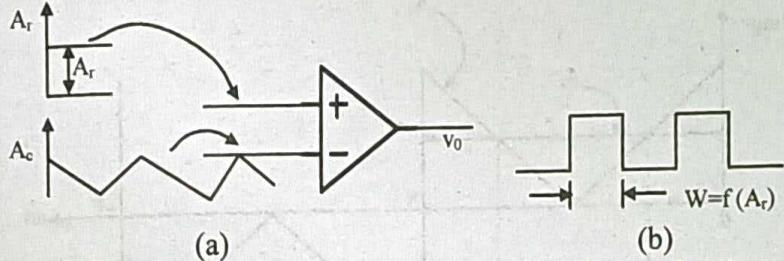

Fig: 1 (a) Generating gating signal (b) dependence of gating width
- These two signals are compared with the help of a comparator circuit as shown in Fig. 1.a.